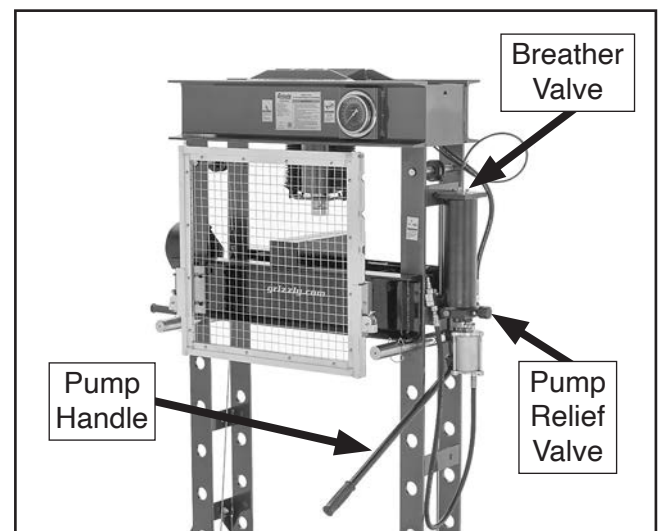

Figure 35. Location of hydraulic system components.
1. Rotate pump relief valve counterclockwise to open hydraulic system (see **Figure 35**).
2. Pump handle several full strokes to bleed air from hydraulic system (see **Figure 35**).